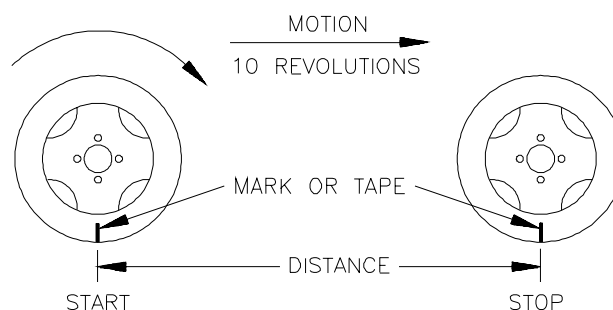

FIGURE 7
- 1) Place chalk mark or tape on vehicle tire on which Speed Sensor is mounted, as shown in Figure 7.